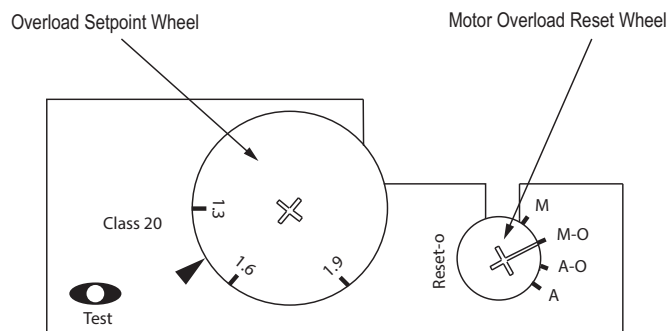

Fig. 23 — Motor Starter Setting
1. On the starter, adjust the Motor Overload to match the **FLA Rating** of the installed motor by turning the Overload Setpoint wheel to the appropriate value. See Fig. 23. Evaporator and condenser motor FLA Ratings are listed in Table 22.